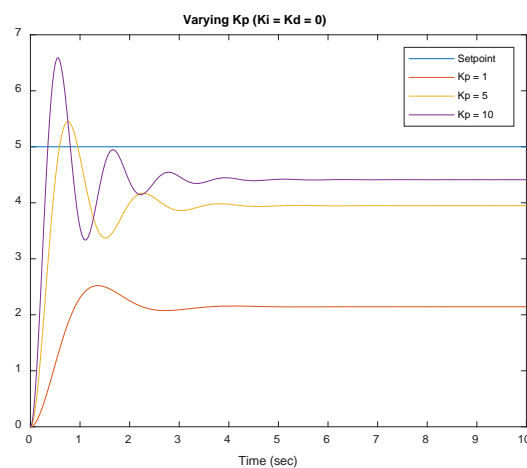

Figure 7: Problem 5.1 varying K_p
- Your plot should look like Figure 7
- Plot of system response with varying values of K_p as specified above. Your plot will have four traces. Include title, legend, and x-axis label and units. You do not need a y-axis label or units. Your plot should look like Figure 7.